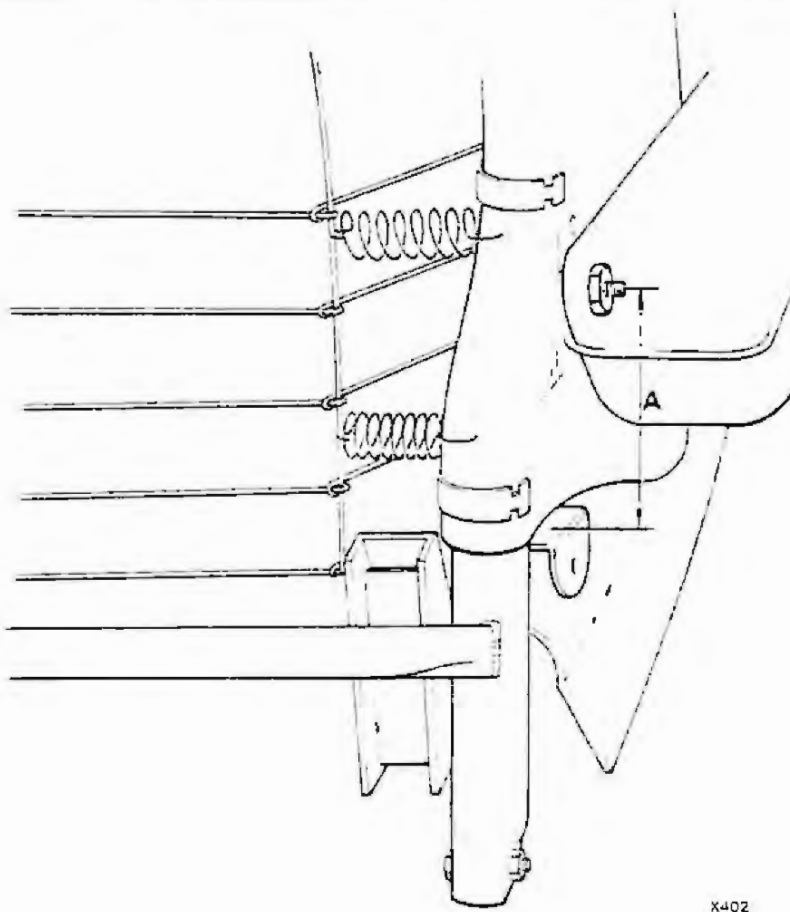

Fig. 1
- 2 Using a rule, take a measurement from the centre of the arm rest pivot bolt to the face of the squab frame attachment bracket (see fig. 1).